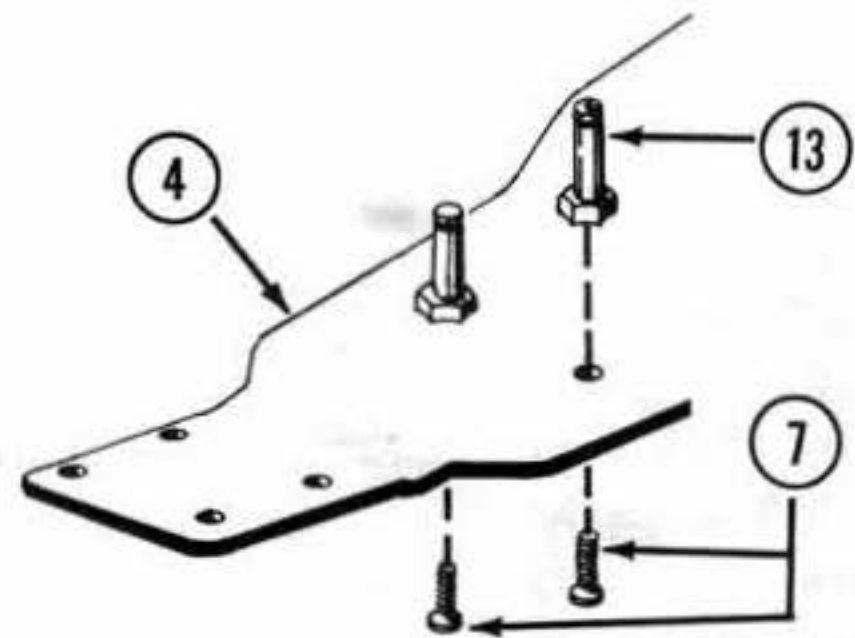

FIG. 2
3. Secure two aluminum steering posts (13) to chassis (4) using two 4-40 X 3/8" flathead screws (7). Fig 2